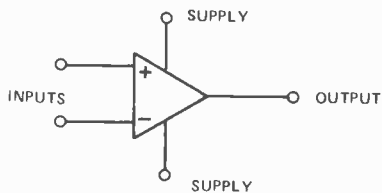

Fig. 6. Symbol for an amplifier IC.
Good ol'fashioned transistor circuits use a symbol for each component and most of these symbols have been around for a long time. There aren't many standard symbols for linear ICs, mainly because so many linear ICs would need special symbols, and it takes longer these days to get a symbol accepted than it does to design and produce the IC! The symbol which is most often used is the triangle (Fig. 6) with input(S) at the flat end and output from the sharp end. This symbol is used to represent an amplifier, and since most linear ICs contain amplifiers or *are* amplifiers, it's the most useful thing to have a symbol for. Other linear ICs simply use a square or rectangular block symbol, with input, output and power supply lines going in and out of the block. What goes on inside the IC then remains a mystery until we take a long hard look at the data sheet — and until you've finished this series it may remain a mystery even after you've seen the data sheet.